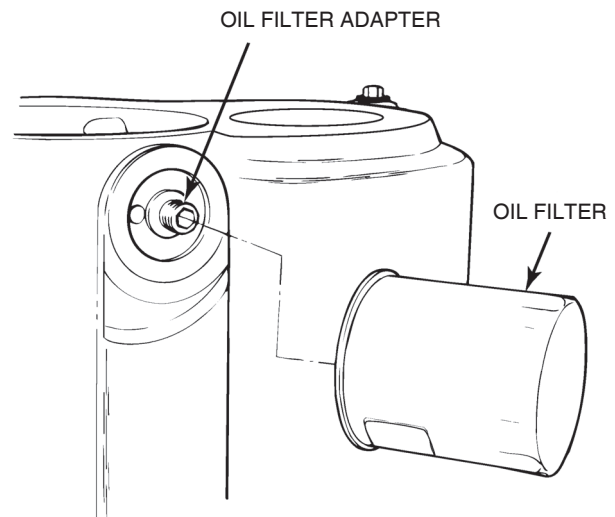

Figure 3.1
5. Use a filter strap wrench to remove the oil filter. Be careful that the oil inside does not spill when removing the filter. Discard the filter. Figure 3.1.